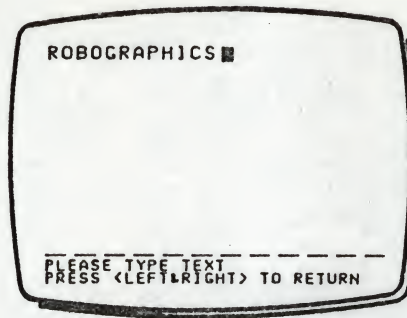

Fig 1
- 2 Select TEXT from the Menu. The palette is replaced with a screen for text entry, see Fig 1.